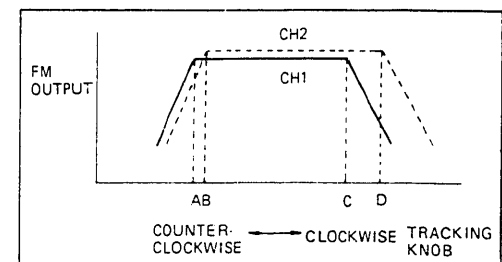

Fig. 26
Play back the alignment tape recorded with the video track width of $58\mu\text{m}$, tape speed at 33.3 mm/s (SP) to adjust the X value. It is traced with the video head width of $75\mu\text{m}$ in CH1 and $90\mu\text{m}$ in CH2, with respect to the video track width of $58\mu\text{m}$ of the alignment tape. As a result, the video head width is wider than the video track, the FM output shown in Fig. 26 is obtained when the tracking control is turned.
When the X value adjustment screw is turned in the direction the same as the tracking control, the graph in Fig. 26 is obtained.